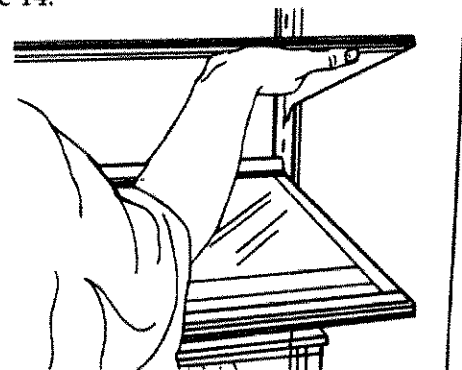

Figure 14
- Tilt up on front edge of shelf and pull out. See Figure 14.